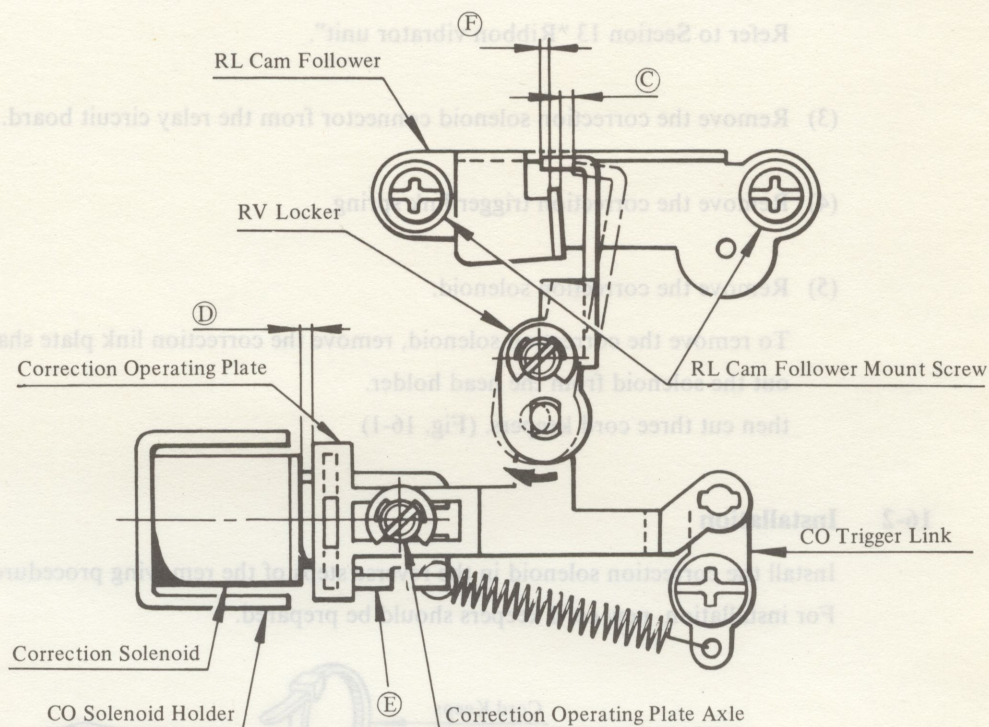

Fig. 16-2
(1) Correction adjustment
- a) Move the correction operating plate link by hand and, while keeping it in contact with the correction solenoid, loosen the correction operating plate link shaft screw and properly position the correction solenoid holder so that gap ③ between the RL cam follower and the RL locker is within a range from 0.5 mm to 1.0 mm. (Fig. 16-2)